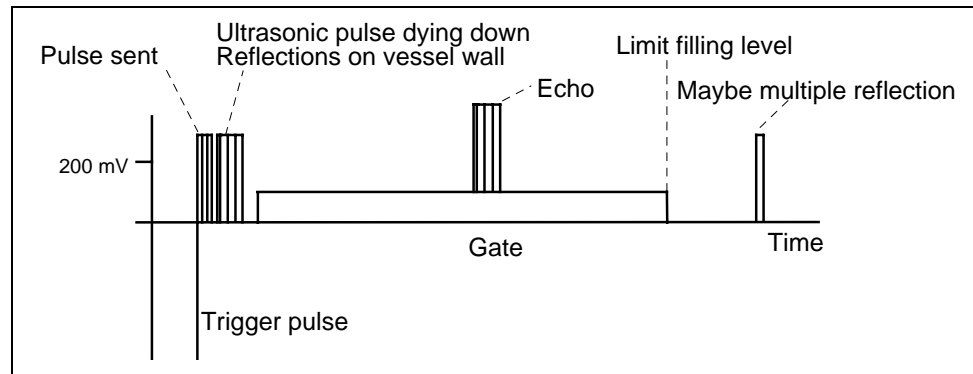

Figure 13: Signal at test output in pulse-echo method with vertical attachment of probe
- If no echo pulses can be seen as illustrated in figure 13, increase the transmission energy (P03) and/or the gain (P04) until ultrasonic signals are received continually.